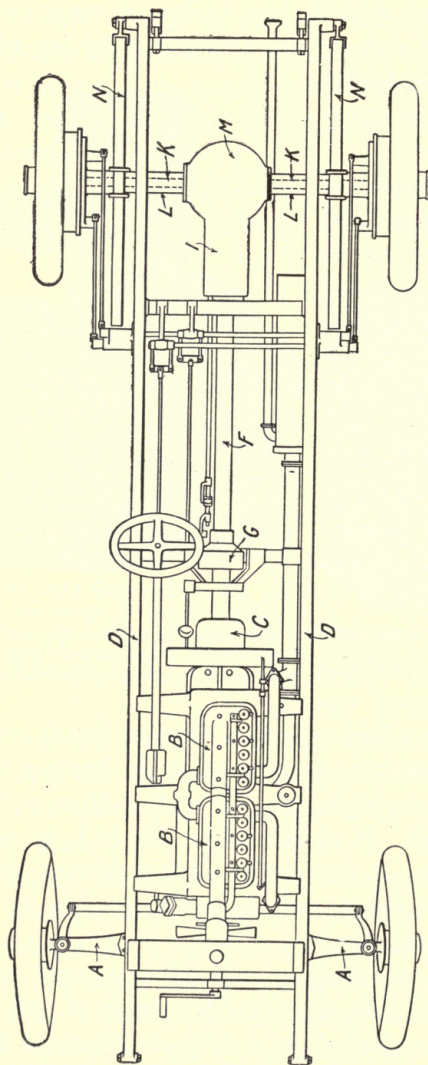

FIG. 182.—CHASSIS OF A MOTOR CAR.
**408. Principal Parts of a Motor Car.**—To show the “works” of an automobile it is necessary to remove the body or top of the car. What remains is called the chassis (Fig. 182).